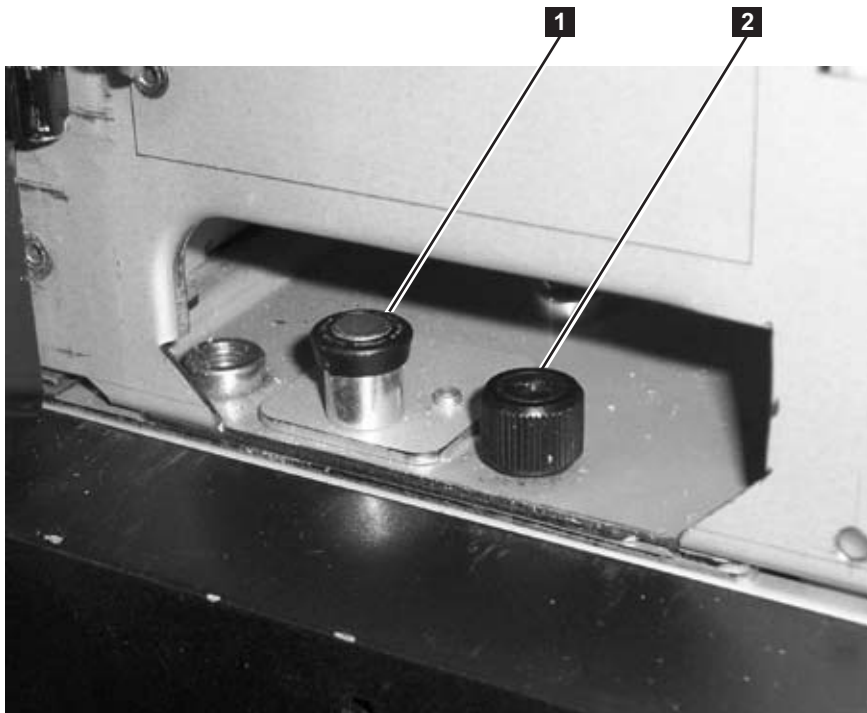
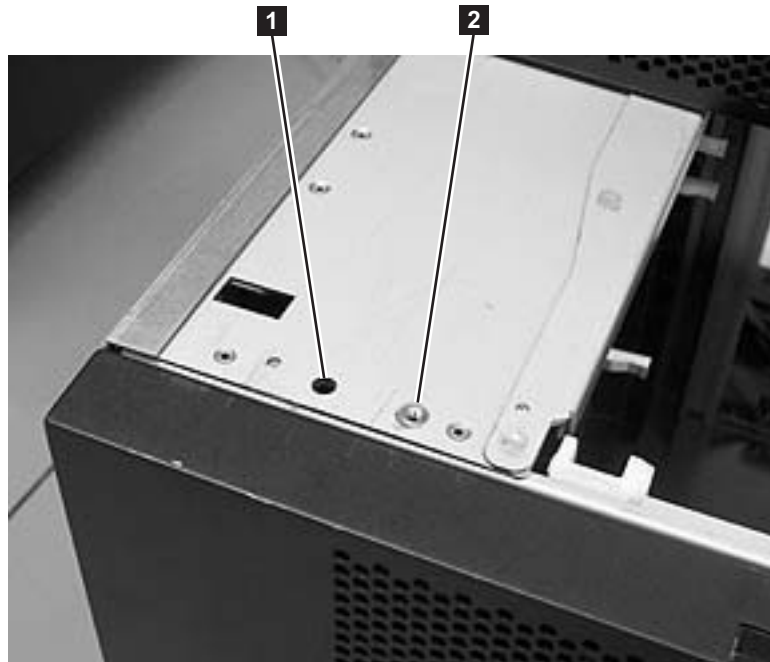

Figure 12-7. Alignment pin and front thumb screw
Figure 12-9. Alignment pin and front thumb screw receptacles
9. Open the I/O Station door then the Access Door of the control module to expose the control module alignment pin (**1** in Figure 12-7 on page 12-8) and front thumb screws (**2** in Figure 12-7 on page 12-8) behind the Access Door and behind the I/O Station door
2. Ensure that the module-to-module alignment pin (**1** in Figure 12-7 on page 12-8) is in the raised position. If necessary, raise the pin and rotate it half a turn to lock it in the raised position.
6. Twist the control module alignment pin (**1** in Figure 12-7 on page 12-8) to unlock it from the up position.
7. Adjust the control module's position on top of the expansion module until the control module alignment pin drops into the alignment pin receptacle (**1** in Figure 12-9) in the lower expansion module.
8. Tighten the front thumb screw (**2** in Figure 12-7 on page 12-8) to secure the front of the control module to the lower expansion module (**2** in Figure 12-9).
6. Raise the locating pin. (Refer to Figure 12-7 on page 12-8).
- b. Lower the locating pin. (Refer to Figure 12-7 on page 12-8).